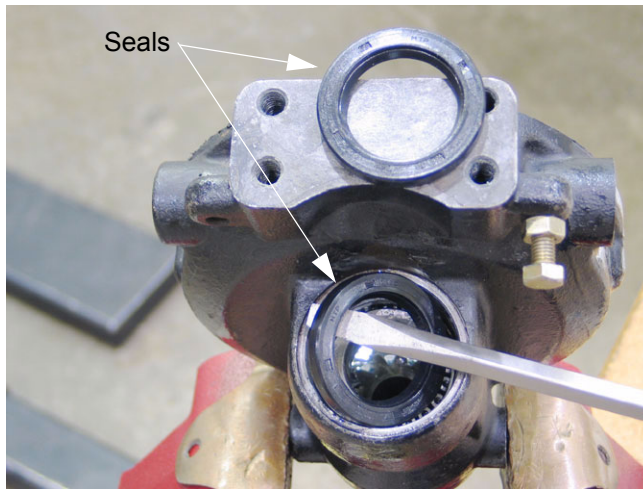

Figure 8.8
- 8.8. There are two seals to be removed from the top bore of the drop axle housing. See Figure 8.8.